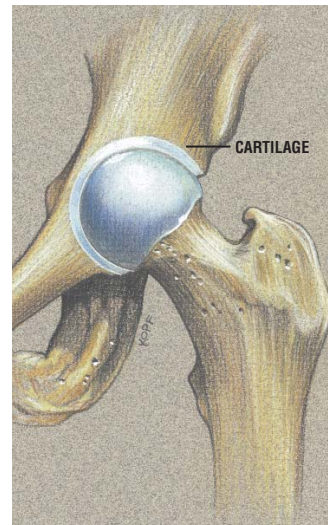

Figure 3
- Simulates the ANATOMIC joint by allowing increased lubrication between components³ (Figures 3 & 4)